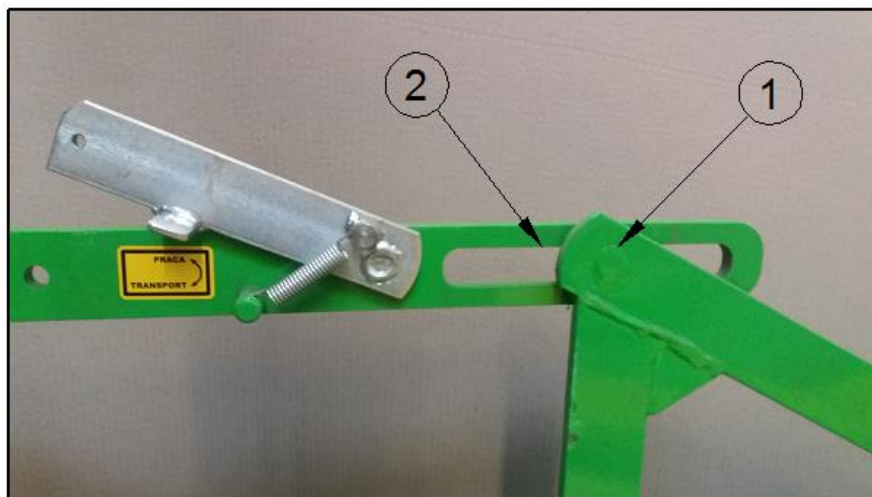

Figure 14 Correct setting of the mower
In the recommended position, the pin of the rod assembly (Fig. 14 item 1) should be at the centre of the groove in the rod assembly (Fig. 14 item 2).